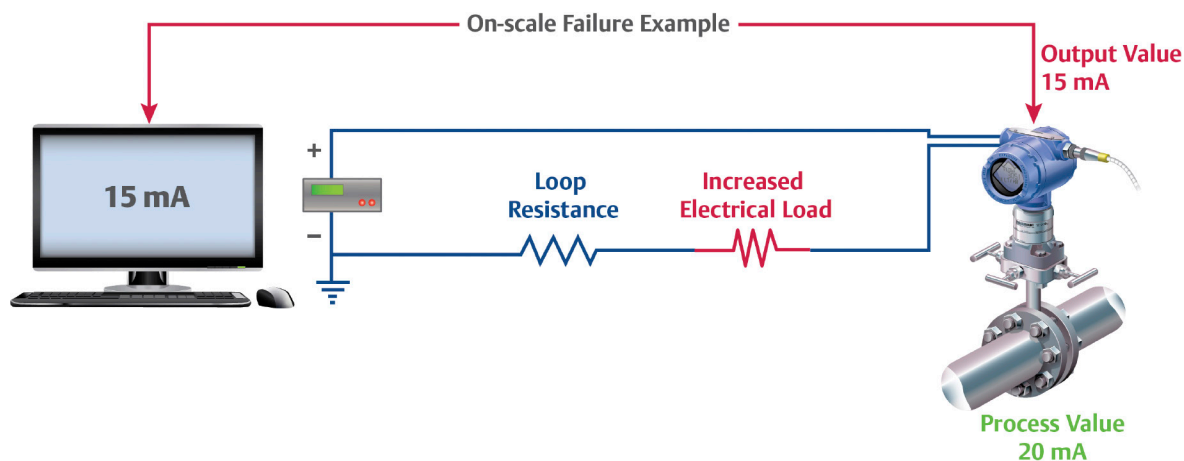

Figure 1.3: Increased electrical load can lead to brownout conditions where readings appear lower than they actually are.
*Increased electrical load* – Correct functioning of a loop depends on having a known resistance for the wiring and a reliable, consistent power supply. If wires or terminals are corroded or loose, there may still be contact, but those points will add an additional load just as if a resistor had been added to the circuit. Similarly, a failing or overtaxed power supply can create a brownout condition with sagging output. These can reduce the voltage available to the transmitter (Figure 1.3) which can keep it from being able to reach a full 20 mA signal. Under those conditions, the transmitter might only be able to communicate a maximum of 15 mA even though the process calls for something higher. This condition is particularly difficult to recognize since the transmitter can behave correctly through much of its range leaving operators unaware of this critical failure condition.